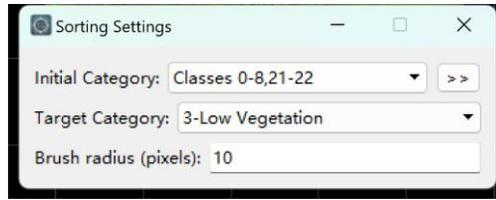

Figure 3-163 Brush Classification Settings
- (1) Click menu <Profile> → < Classification of Brush >, in the pop-up dialog box, in addition to setting the initial category and target category, you also need to set the brush radius (Figure 3-163).